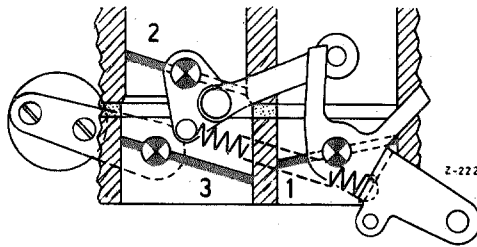

Fig. 07 — 0/3
When the accelerator pedal is depressed only the throttle valve (1) of Stage 1 opens at first (Fig. 07 — 0/4).